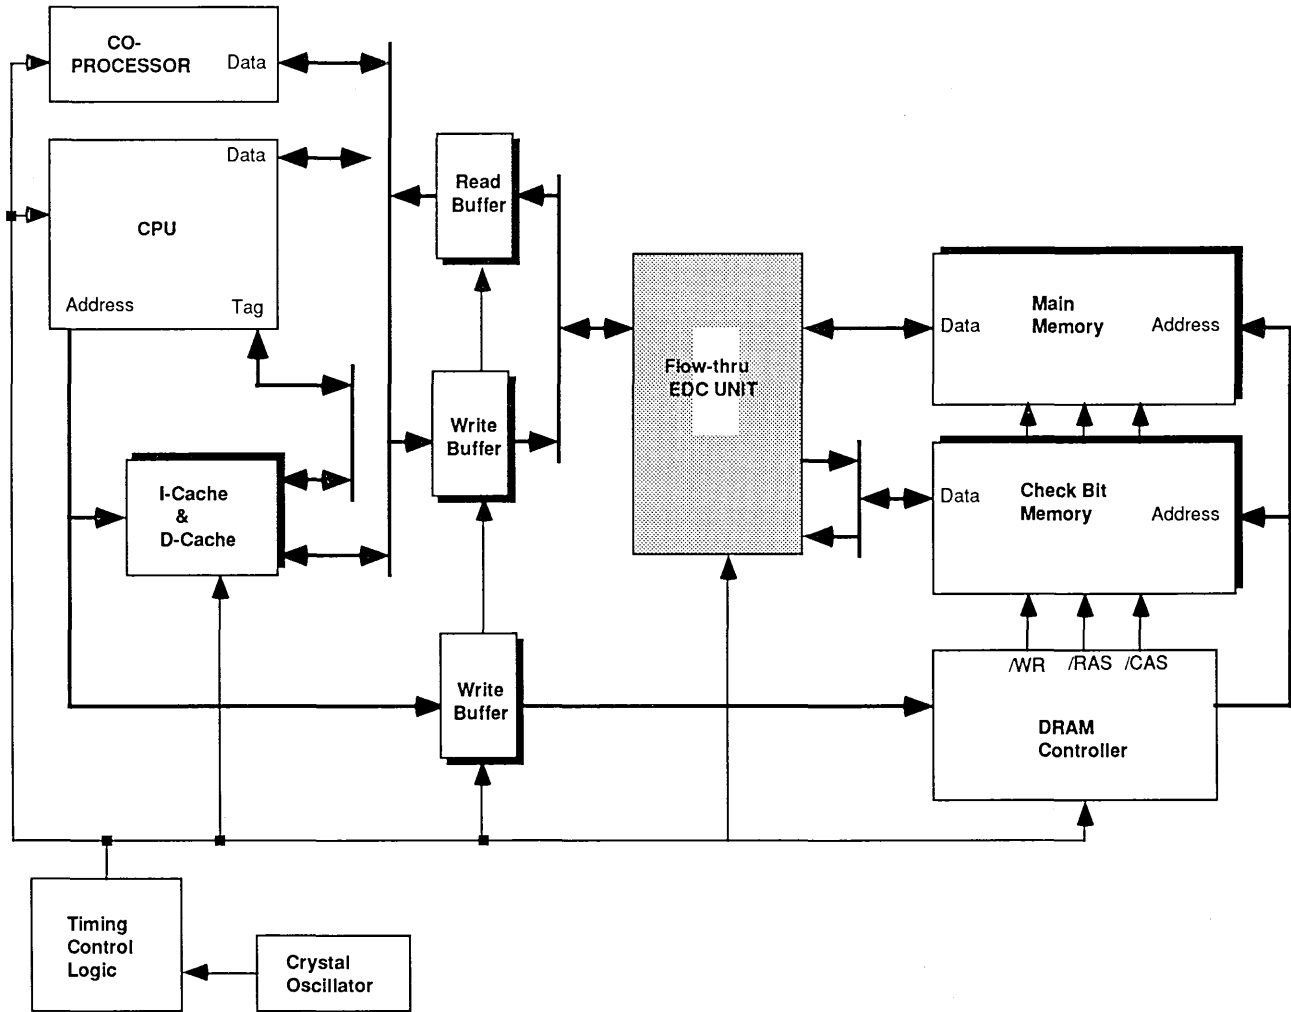

Figure 2. A Typical Architecture of High-performance RISC or CISC Systems
Figure 2 shows a typical architecture of high-performance RISC or CISC systems which have the following features: (1) high-speed cache memory (separate or common, Instruction-cache and Data-cache) for fast access to frequently used instructions and data, (2) write and read buffers to handle the mismatch between the high-speed CPU and the slow-speed main memory and (3) high-speed flow-thru EDC unit to insure data integrity.